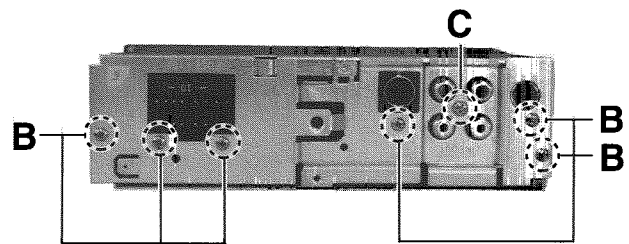

Fig. 6
■ **Removing the rear panel (See Fig.6 )**